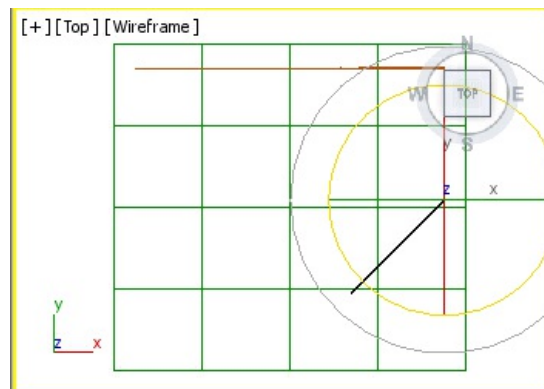

Figure 4-60 The railing03 geometry rotated in the Top viewport
20. Activate the Top viewport and select *railing03*. Choose the **Select and Rotate** tool, move the cursor over the Z-axis, and rotate it to -45 degrees in the clockwise direction, as shown in Figure 4-60.